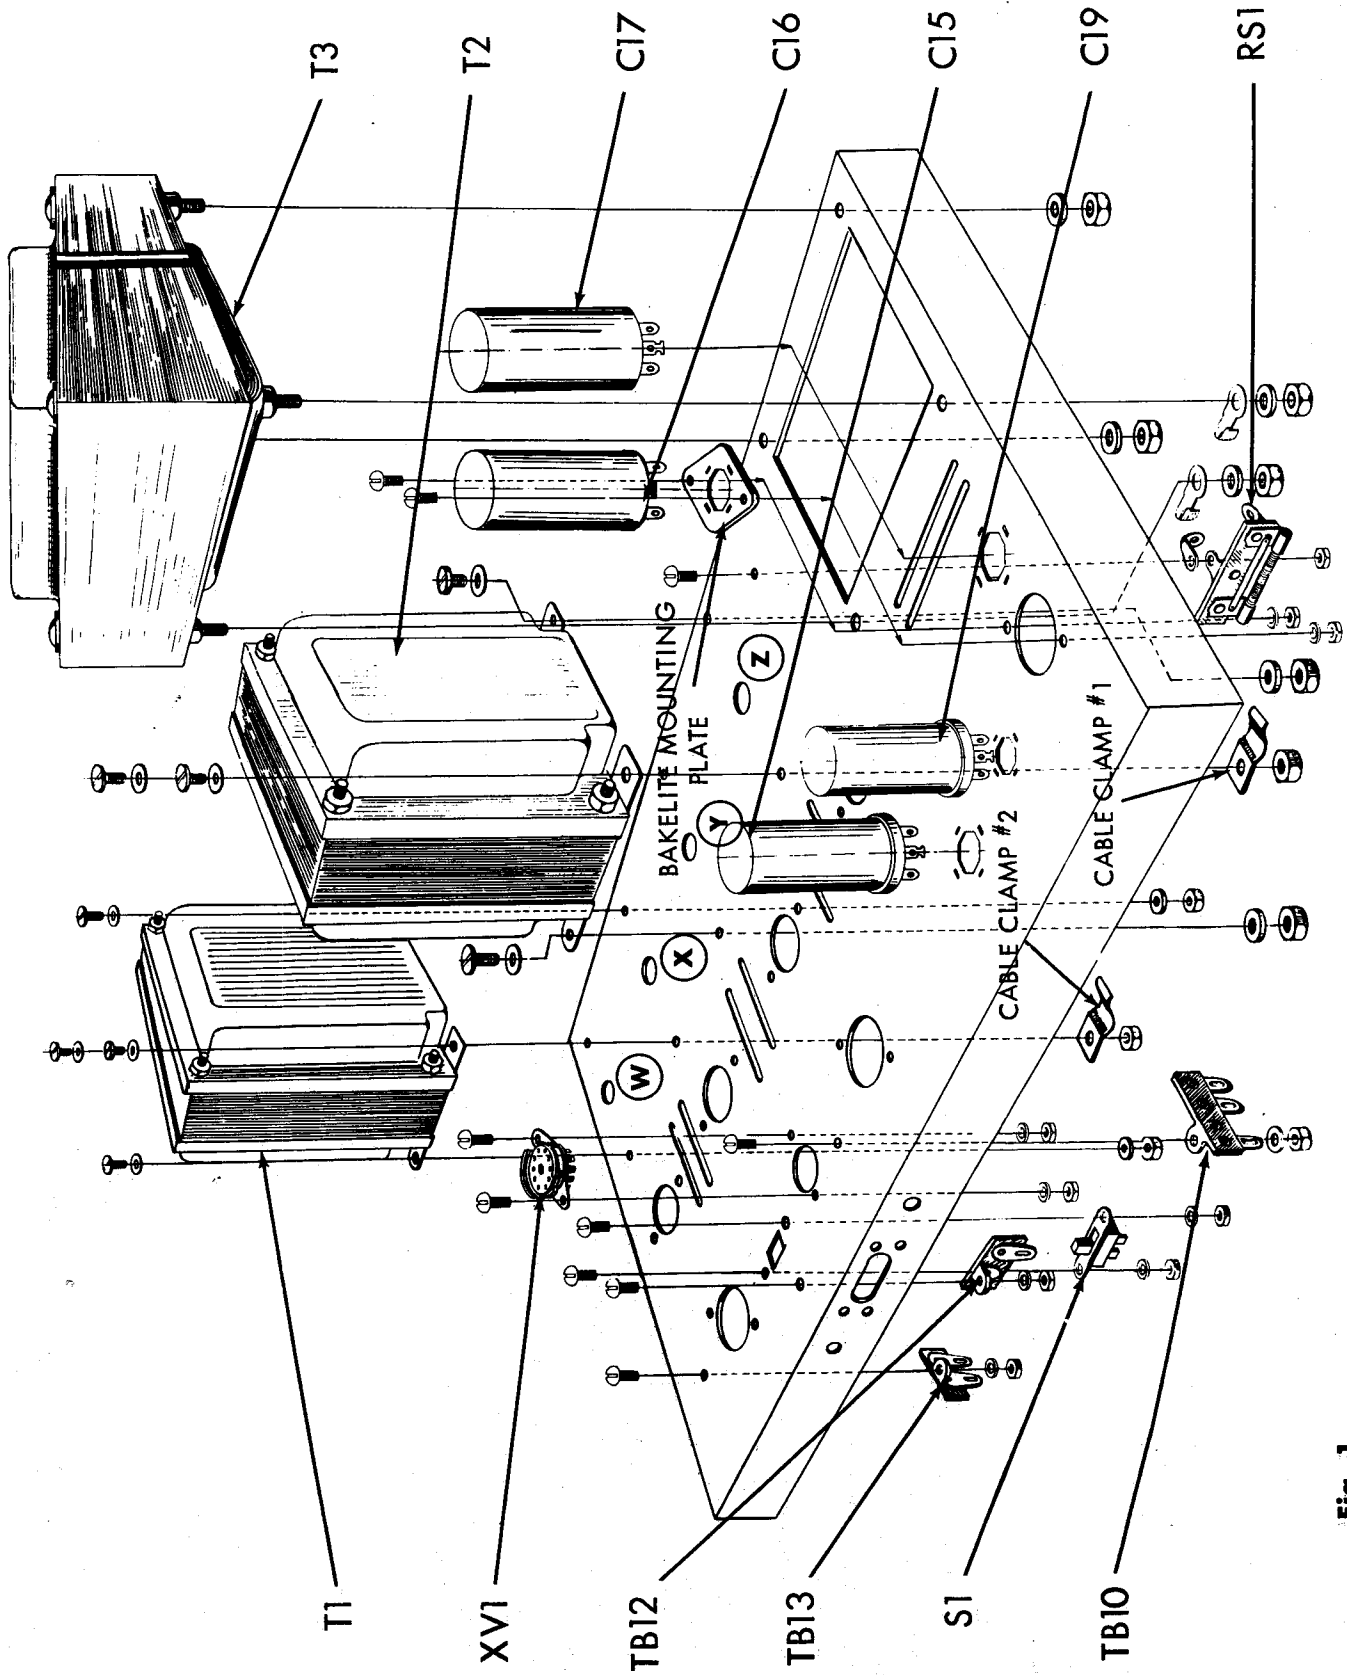
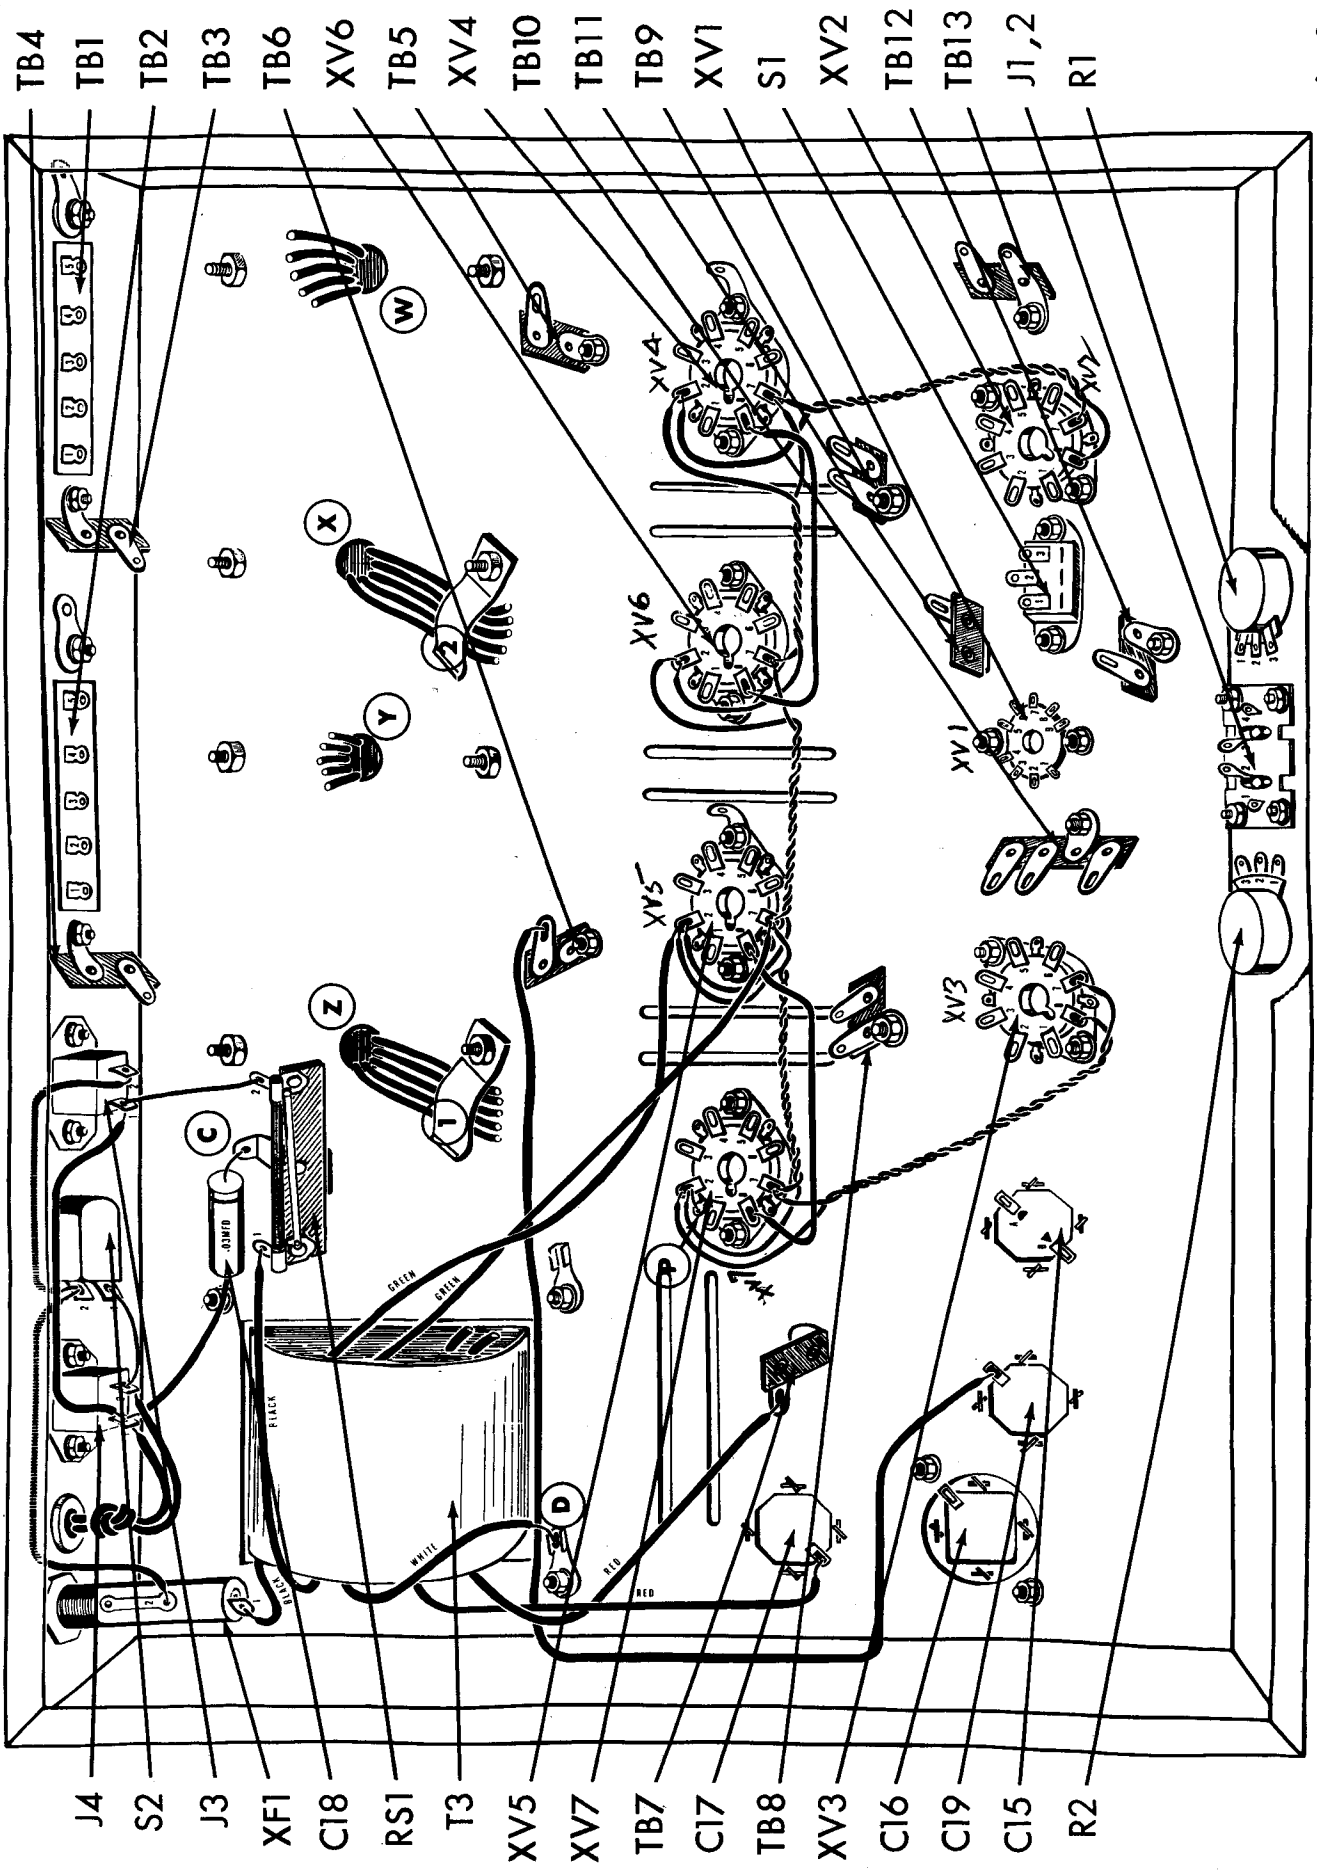

Fig. 1
Fig. 3
1. Fig. 1. On power transformer T3, cut both green leads to 9", one red lead to 6", the other red lead to 7", the white lead to 3", one black lead to 2", the other black lead to 4", and the two blue leads to 1/4" each. On each of these leads (except the blue leads), strip the insulation back 1/4". The blue leads will not be used and the insulation should not be stripped off. Mount the transformer as shown with the green leads toward the center of the chassis and the black leads close to the side of the chassis. Use four #8 lockwashers and four #8-32 hex nuts to secure the transformer to the chassis. Under each of two of the lockwashers, mount a #8 ground lug, as shown in Figure 3.
2. Fig. 1. On both output transformers T1 and T2, cut the black lead to 4", the brown lead to 4 1/2", the green lead to 5", the yellow lead to 5 1/2" and the orange lead to 6". Cut the blue and the blue-yellow lead to 4 1/2" and the red, brown and brown-yellow leads to 5 1/2". Strip back 1/4" of the insulation from the ends of each of the leads. Mount transformer T1 with the black, brown, green, yellow and orange leads going through hole "W" and the remaining leads going through hole "X". Mount transformer T2 with the black, brown, green, yellow and orange leads going through hole "Y" and all the remaining leads going through hole "Z". Secure each transformer to the chassis using four #10-32 screws and four #10 flat washers from above the chassis and four #10 lockwashers and four #10-32 hex nuts from below the chassis. Under one of the lockwashers used in the mounting of transformer T2, place cable clamp #1. Run the leads from hole "Z" under this cable clamp. Under one of the lockwashers, used in the mounting of transformer T1, place cable clamp #2. Run the leads from hole "X" under this cable clamp.
3. Fig. 1. Mount the single pole double throw slide switch S1, from below the chassis, as shown. See figure #3 for orientation. Use two #6-32 screws, two #6 lockwashers and two #6-32 hex nuts.
4. Fig. 1. From below the chassis, mount the 3 post 2 right terminal strip, TB 10; the one post left terminal strip, TB 12; and the one post left with ground terminal strip, TB 13, as shown. Orient these terminal strips as shown in figure 3. Use one #6-32 screw, one #6 lockwasher and one #6 hex nut to secure each terminal strip to the chassis.
5. Fig. 1. Mount the 9 pin miniature socket with shield support XV1, from above the chassis, as shown. Use two #4-40 screws, two #4 lockwashers and two #4-40 hex nuts. Note the orientation of this socket in figure #3.
6. Fig. 1. Mount the bakelite capacitor mounting plate for C 16 from above the chassis, as shown. Use two #6-32 screws, two #6 lockwashers and two #6-32 hex nuts.
7. Fig. 1. Into the slots in the bakelite capacitor mounting plate (mounted in step #6) insert the tabs from the 300 ufd, 300V electrolytic can capacitor, C 16. Note the orientation of this capacitor in figure #3. Twist the tabs somewhat less than a quarter turn. Do not twist the tabs excessively or they will shear off. Take precautions so that the tabs used to secure the capacitor to the bakelite will not short against the surrounding metal chassis.
8. Fig. 1. Mount the 300mf 300 volt electrolytic capacitor C 17, as shown. Note the orientation in figure #3. Insert the capacitor mounting tabs into the slots in the chassis and twist the tabs a little less than a quarter turn. Do not twist the tabs excessively or they will shear off. Solder the capacitor tab without a hole to the chassis at the slot in the chassis.
9. Fig. 1. Mount the 80mf 500 volt electrolytic capacitor C 19, as shown. Note the orientation in figure #3. Insert the capacitor mounting tabs into the slots in the chassis and twist the tabs a little less than a quarter turn. Do not twist the tabs excessively or they will shear off. Solder the capacitor tab without a hole, to the chassis at the slot in the chassis.
10. Fig. 1. Mount the 40-20 mfd/500 volt electrolytic capacitor C 15, as shown. Note the orientation of the capacitor (half-moon and triangle) in figure #3. Insert the capacitor mounting tabs into the slots in the chassis and twist the tabs a little less than a quarter turn. Do not twist the tabs excessively or they will shear off. Solder the capacitor tabs without a hole to the chassis at the slot in the chassis.
11. Fig. 1. Mount the surgeistor RS-1, as shown. Use one #6-32 screw, one #6 ground lug and one #6 hex nut to secure this component to the chassis. Note the orientation in figure #3.
1. Fig. 3. Connect a 15" piece of red wire from C19 (C) to TB6 (C). Run this lead along the chassis as shown.
2. Fig. 3. From power transformer, T-3, connect the white lead to ground lug "D" (C), the short black lead to XF1-1 (S1) and the longer black lead to RS1-1 (S1). Twist the two red leads together as shown. Connect one red lead to C17 (C) and the second red lead to TB7 (C).
3. Fig. 3. Connect a 5" piece of gray wire from XF1-2 (S1) to S2-2 (C).
4. Fig. 3. Connect a 4" piece of gray wire from S2-2 (S2) to J3-2 (S1).
5. Fig. 3. Connect a 1 1/4" piece of bare wire from J4-2 (C) to S2-1 (S1).
6. Fig. 3. Connect a 5" piece of gray wire from J4-1 (C) to J3-1 (C).
7. Fig. 3. Connect a 2" piece of bare wire from J3-1 (S2) to RS1-2 (S1).
8. Fig. 3. Cut one lead on a .03 mfd (orange, black, orange, black, blue) molded capacitor C18 to 1 1/4". Cover this lead with a 1" piece of spaghetti and connect it to J4-1 (C). Cut the second lead to 3/4" and connect it to ground lug "C" (S1).
9. Fig. 3. Connect one end of a six inch piece of yellow wire to XV4-2 (C) and one end of a 5" piece of brown wire to XV4-7 (C). Twist the two leads together and run them along the chassis as shown. Connect the other end of the yellow wire to XV2-7 (S1) and the other end of the brown wire to XV2-8 (S1).
10. Fig. 3. Connect one end of a 7" piece of yellow wire to XV4-2 (S2) and one end of a 4" piece of brown wire to XV4-7 (S2). Twist the two leads together and run them along the chassis as shown. Connect the remaining end of the yellow wire to XV6-2 (C) and the other end of the brown wire to XV6-7 (C).
11. Fig. 3. Connect one side of a 7" piece of yellow wire to XV6-2 (S2) and one side of a 4" piece of brown wire to XV6-7 (S2). Twist the two leads together and run them along the chassis as shown. Connect the other end of the yellow wire to XV5-2 (C) and the other end of the brown wire to XV5-7 (C).
12. Fig. 3. Connect one end of a 7" piece of yellow wire to XV5-2 (C) and one end of a 4" piece of brown wire to XV5-7 (C). Twist the two leads together and run them along the chassis as shown. Connect the other end of the yellow wire to XV7-2 (C) and the other end of the brown wire to XV7-7 (C).
13. Fig. 3. Connect one end of a 8" piece of yellow wire to XV7-2 (C) and one end of a 7" piece of brown wire to XV7-7 (S2). Twist the two leads together and run them along the chassis as shown. Connect the other end of the brown wire to XV3-8 (S1) and the other end of the yellow wire to XV3-7 (S1).
14. Fig. 3. Connect a 3/4" piece of bare wire from XV7-2 (S3) to ground lug "P" (S1) at XV7.
15. Fig. 3. Connect a 4 1/2" piece of orange wire from XV7-8 (C) to XV5-8 (C).
16. Fig. 3. Connect a 4 1/2" piece of orange wire from XV6-8 (C) to XV4-8 (C).
17. Fig. 3. From power transformer T3 twist the two green leads together. Run them along the chassis as shown. Connect one green lead to XV5-2 (S3) and the other green lead to XV5-7 (S3).